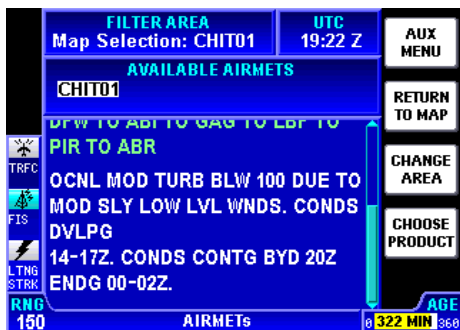

Figure 2-32
5. Press the **MORE INFO** Softkey to display the Text **AIRMET** Page for the displayed location as in Figure 2-32.